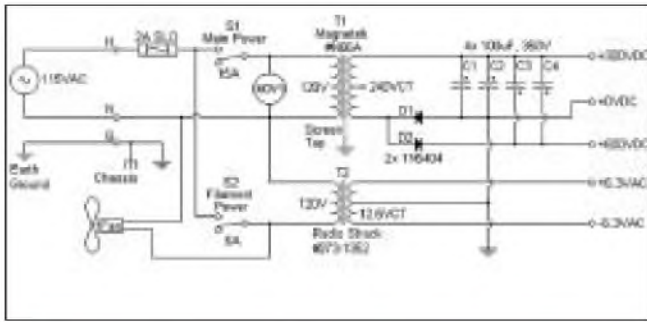

FIGURE 5: The Plasmatone-RG1 power supply.
The power supply for the ion tweeters is shown in Fig. 5. I don't like it at all, because I used a voltage doubler circuit to obtain the necessary 600V DC. Such a circuit has increased 60Hz noise present and bad power-supply ripple. I suggest using a center-tapped (CT) transformer rated somewhere around 800V with a full-wave rectifier and choke-input instead.